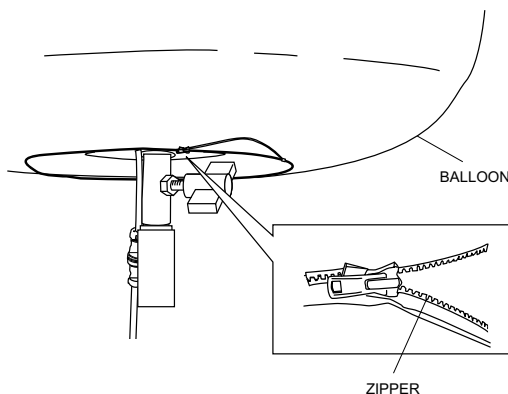

Figure 18. Unzipping Balloon
1. Slightly unzip the bottom of the balloon to gain access to the dimmer switch (Figure 18).